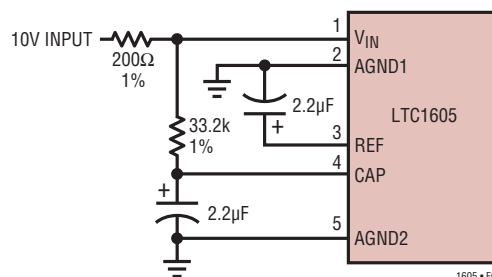
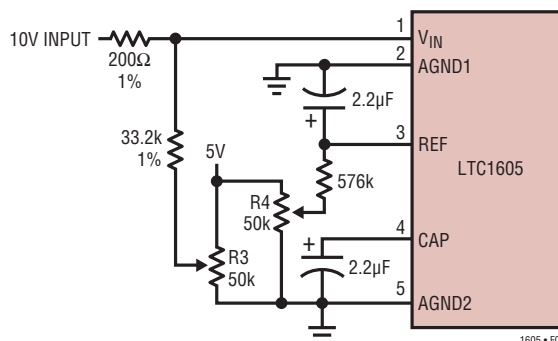

Figure 4.  $\pm 10V$  Input Without Trim
Figure 5.  $\pm 10V$  Input with Offset and Gain Trim
**Note 12:** As measured with fixed resistors shown in Figure 4. Adjustable to zero with external potentiometer.
The LTC1605 offset and full-scale errors have been trimmed at the factory with the external resistors shown in Figure 4. This allows for external adjustment of offset and full scale in applications where absolute accuracy is important. See Figure 5 for the offset and gain trim circuit. First adjust the offset to zero by adjusting resistor R3. Apply an input voltage of  $-152.6mV$  ( $-0.5LSB$ ) and adjust R3 so the code is changing between 1111 1111 1111 1111 and 0000 0000 0000 0000. The gain error is trimmed by adjusting resistor R4. An input voltage of  $9.999542V$  ( $+FS - 1.5LSB$ ) is applied to  $V_{IN}$  and R4